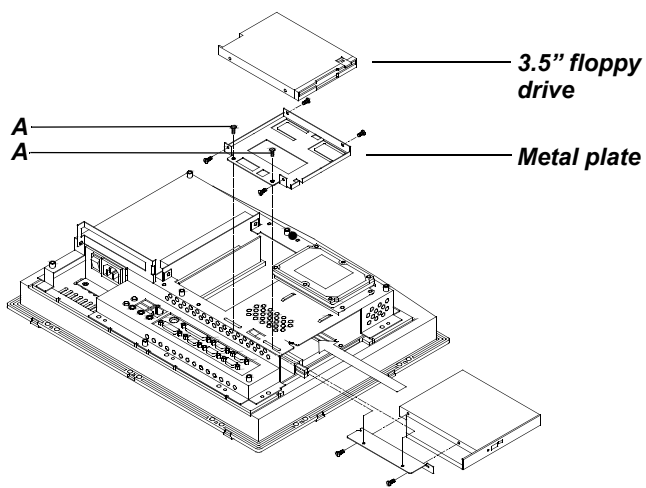

Figure 4.5: Installing FDD and slim CD-ROM drive
2. There is a metal plate which holds the FDD and slim CD-ROM drive to the metal shielding case. There is also a slim CD-ROM support bracket which is attached to the shielding case. There are two screws ("A") on the metal plate. Unscrew these two screws. (See Fig. 4-5.)
6. Place the support bracket against the slim CD-ROM drive. It should fit neatly into the space allocated for the bracket. (See Fig. 4-5.)